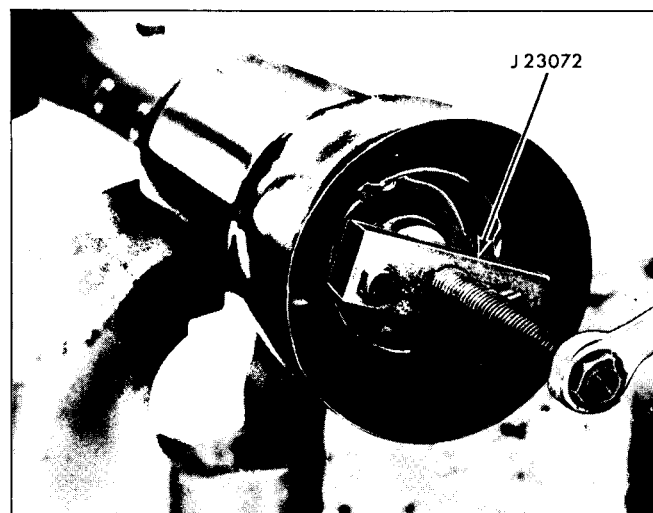

Fig. 9-56 Installation of Shift Tube Remover J 23072
23. Remove shift tube from bowl using tool J 23072, (Fig. 9-56). Pilot sleeve in upper end of shift tube and force tube out of bowl.